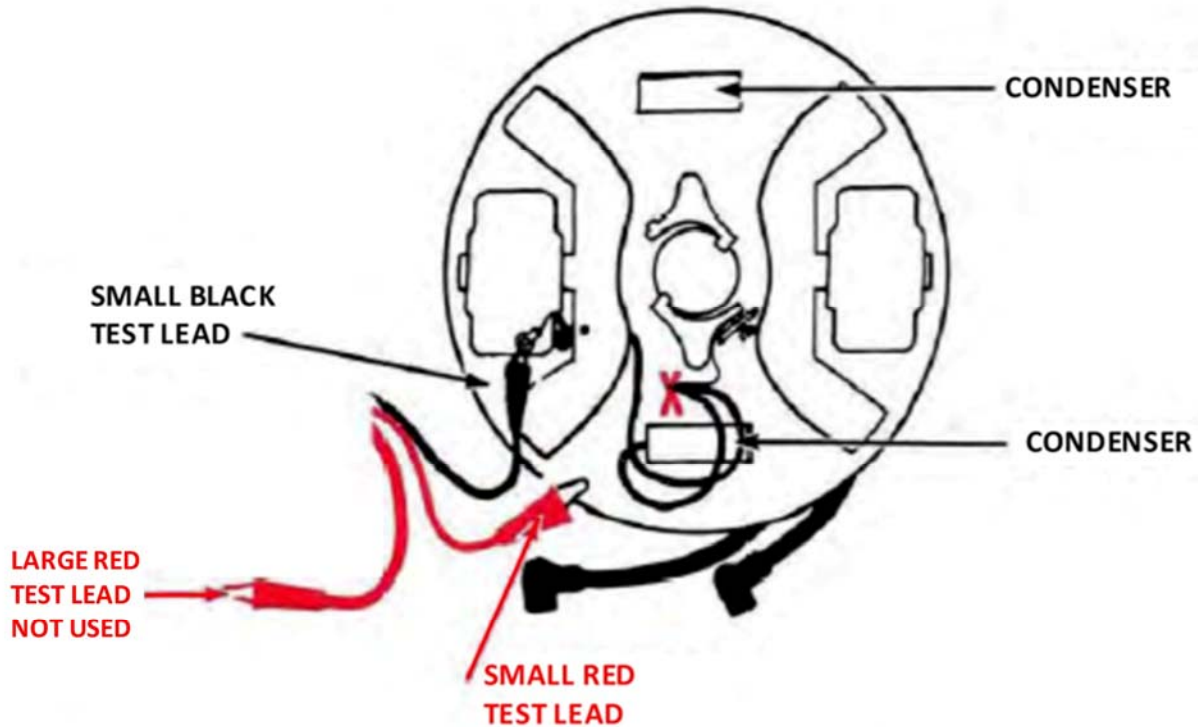

Figure 10
2. Remove small red test lead from high tension wire and connect it to ground or frame of stator plate. (See wiring hookup, Fig. 10.)
6. If there is a meter pointer hand movement to the right, indicating a grounded coil, remove the breaker point screw at "X" on diagram Fig. 10.